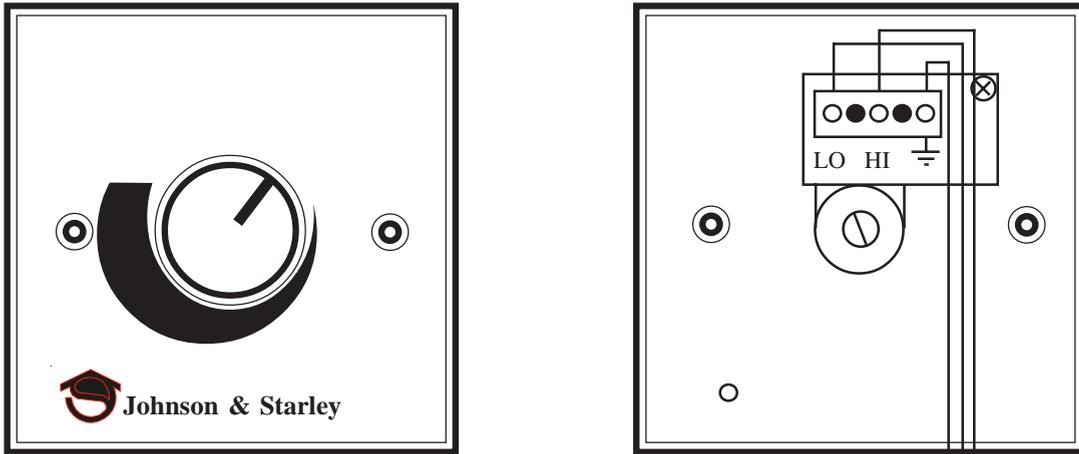

Fig. 2
- 2.5.5 Fan speed is controlled by the JS5 system, comprising a Fan Speed Controller (supplied loose and purpose made to fit a standard single gang deep socket outlet box, see Fig. 2) and an integral Fan Controller Module.
4.6.3 Replacement is in reverse order, reconnecting as shown in Fig. 2.